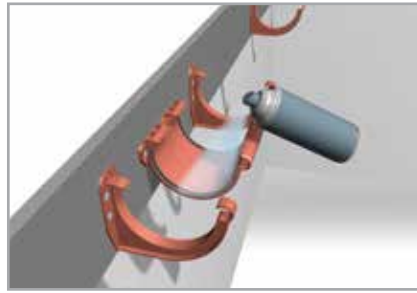

Fig. 5
- 1.10 Before commencing installation of the Galeco PVC system, lubricate the fitting seals with a lubricant to ensure free gutter movement when the temperature changes **(Fig. 5)**